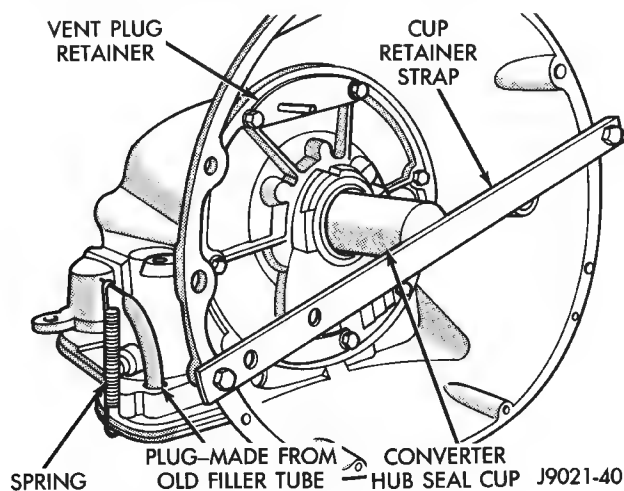

Fig. 15 Vent Plug And Hub Seal Cup Installation
(1) Install vent plug, converter hub seal cup and cup retaining strap (Fig. 15).
(2) Close off remaining transmission openings with rubber plugs, or stoppers. **Do not close off rear cooler line fitting. Air pump will be attached to this fitting.**